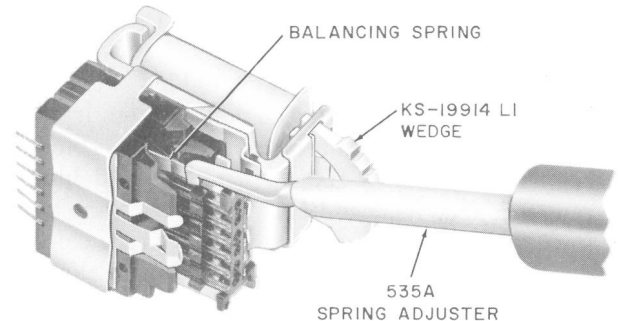

Fig. 11—Method of Adjusting Balancing Spring
(4) Place the slot of the 535A spring adjuster on the leg of the balancing spring just in back of the two projections at the end of the leg. Slide the adjuster close to the pretensioned bend in the spring (see Fig. 11). Take care not to slide the adjuster over the bend.